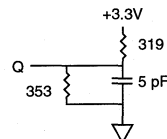

Fig. 2 OUTPUT LOAD EQUIVALENT
6. tHZCE, tHZOE and tHZWE are specified with CL = 5pF as in Fig. 2. Transition is measured ±200mV from steady state voltage.